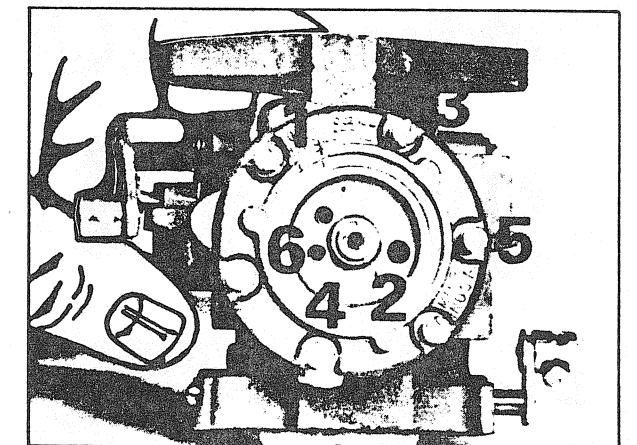

FIGURE 3
- Unscrew and remove the six (6) body screws following the sequence shown in figure 3.